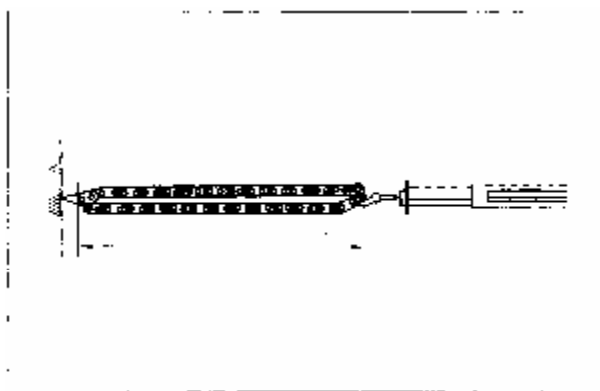

Figure 8-40 Inspection of Length of Timing Chain
8.4.5 Inspect length of timing chain. Using a spring balance, follow the measurement method in Figure 8-40 to, pull the chain with a 49N tensile force, and the maximum length of chain is 291.4mm. Select 3~4 measurement points at random to measure. If length of chain exceeds the maximum value, replace the chain.